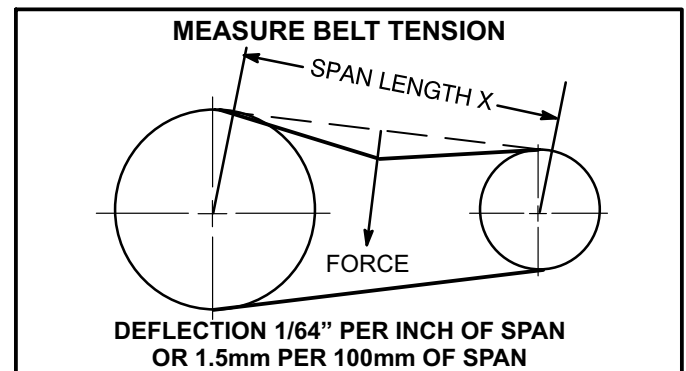

FIGURE 10
- 1- Measure span length X. See figure 10.
- 2- Apply perpendicular force to center of span (X) with enough pressure to deflect belt  $1/64$ " for every inch of span length or 1.5mm per 100mm of span length.